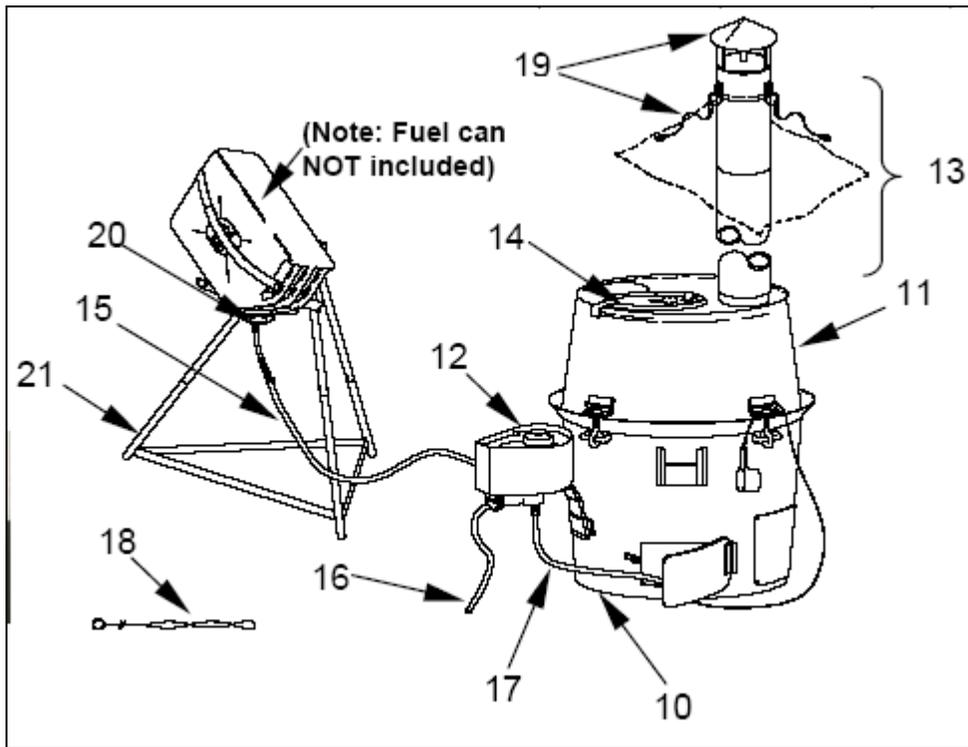

Figure 11
a. Equipment Characteristics, Capabilities And Features. (See Figure 11)
(1) The Type I (Solid Fuel) heater is designed to operate safely with either wood or coal. The Type II (Liquid Fuel) heater is designed to operate safely with either diesel fuel (DF-A, DF-1 or DF-2), or jet fuel (JP-5 or JP-8). It should be noted that there are two different H-45 stoves – the Type I which burns solid fuels only and Type II which burns liquid fuel only. At NWTC you will be exposed to the Type II Liquid Fuel H-45 only.